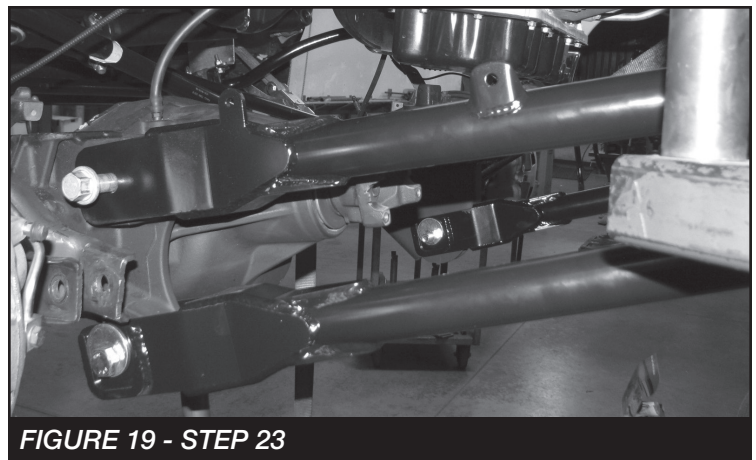

**FIGURE 17 - STEP 20**
20. Install the factory sway bar to the new brackets using the supplied 7/16" hardware. **NOTE: The bushing and mount may need to be moved slightly to line the sway bar up centered to the vehicle. SEE FIGURES 16.** Install FT30797 (clamp) on the passenger side of the sway bar up against the factory bushing to prevent movement. **SEE FIGURE 17**